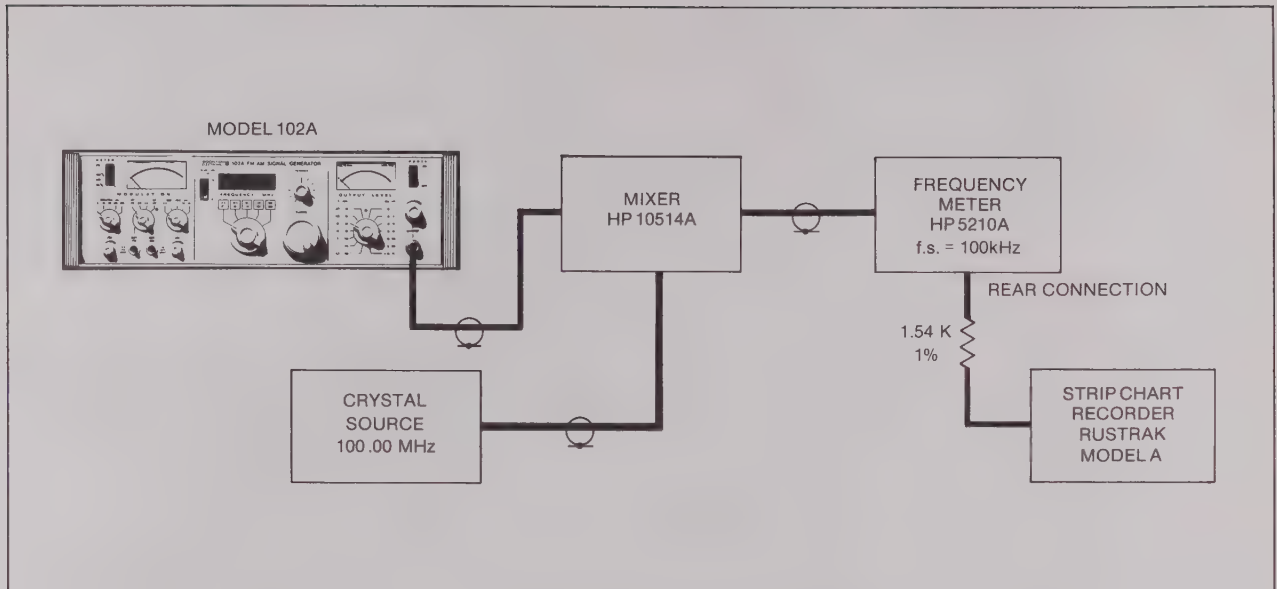

Figure 2-26 Frequency Stability Check, Test Setup
a. Connect the Model 102A and test equipment as shown in Figure 2-26.